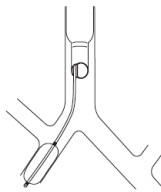

Fig.10
- For a patient with the upper lobe of the right lung located very close to the tracheal bifurcation, blocking the middle and lower lobes of the right lung, instead of the whole right lung, can be achieved by placing the blocker in the intermediated bronchus (Fig.10).